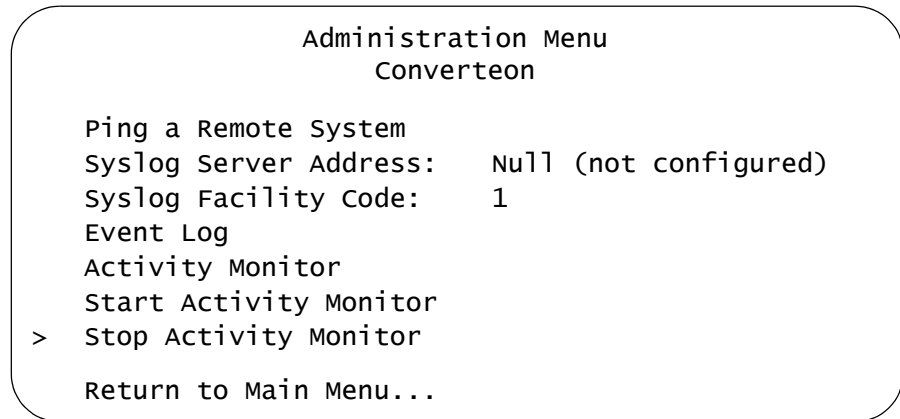

Figure 37. Administration Menu
1. From the Main Menu, select **Administration**. The Administration Menu is shown in Figure 37.
1. From the Main Menu, select **Administration**. The Administration Menu is shown in Figure 37 on page 122.